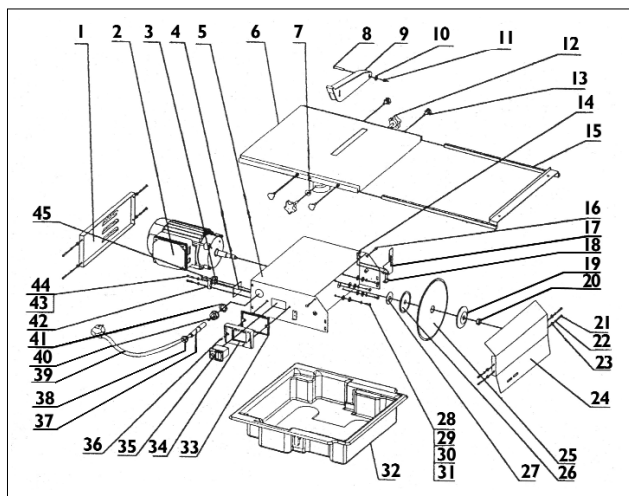

Fig. 2
1. Remove the lower blade guard (24, Fig. 2) on the underside of the machine (2 screws at the front and 2 at the back of the underside of the guard need removing). (21, 22 and 23, Fig. 2).
2. Remove blade nut (20, Fig. 2) and outer flange (19, Fig. 2) from the motor shaft.